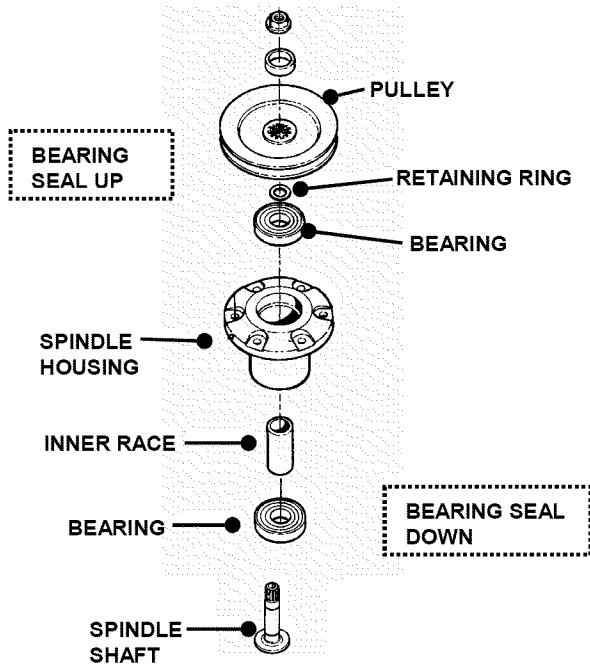

FIGURE 3.10
- 4. Top and bottom bearings are now removable. Pull out on inner race to slide bearing from housing. See Figure 3.10.